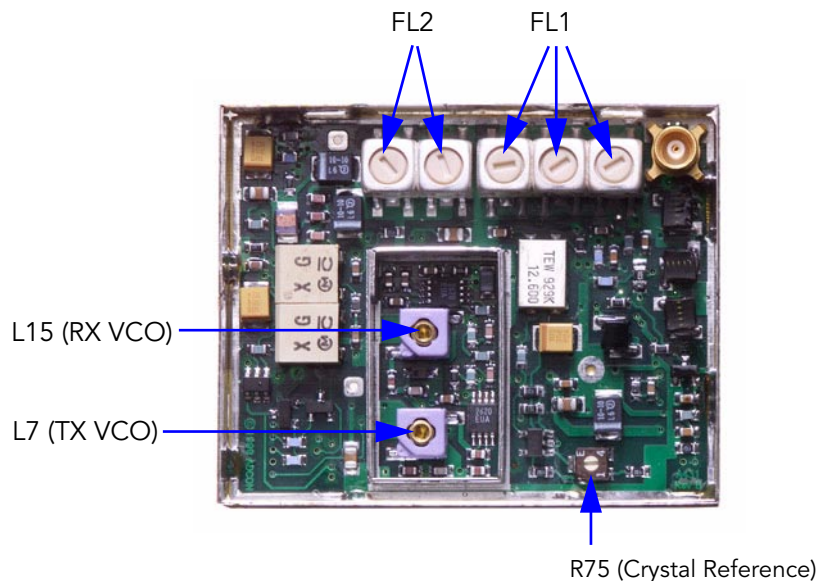
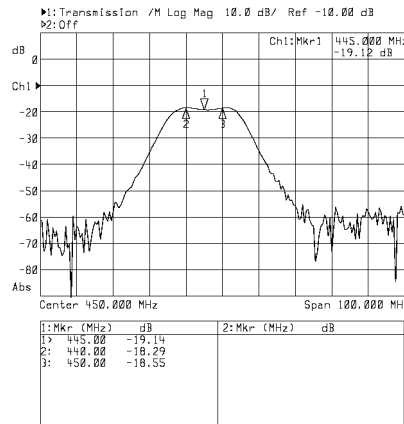

Figure 20. Location of the trimming elements.
Figure 21. Helical Filter + LNA's selectivity diagram.
The location of the trimming elements on the A431 Module is shown in Figure 20.
5. Adjust the FL1 and FL2 filters (see Figure 20) until you obtain a curve similar to the one shown in Figure 21 (depending on the band, the markers may be different); this is done by successively adjusting the five trimming screws located on the filters.
3. Adjust the L15 coil (see Figure 20) until the voltage shown on the digital voltmeter is 900 mV, ± 50 mV (see also the note below).
5. Adjust the L7 coil (see Figure 20) until the voltage shown on the voltmeter is again 900 mV, ± 50 mV.
3. Observe the indication shown by the Service Monitor: adjust R75 (see Figure 20) until the carrier frequency indicates 430000000 (Band 1), 440000000 (Band 2), 450000000 (Band 3), or 460000000 MHz (Band 4) \pm 200 Hz, respectively.
For item 3.a above, adjust R75 (see Figure 20). For item 3.b, issue the command **PWR** at the terminal and use the **D** (down) and **U** (up) keys until the required value is reached. Finally, for item 3.c, issue the command **BW** at the terminal and again use the **D** and **U** keys to reach the required value.